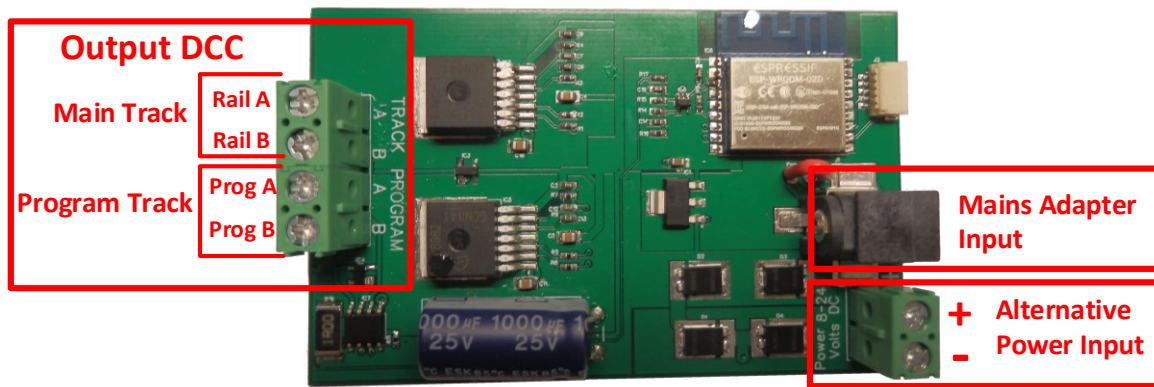

Figure 1. WFD-25 Connections
- (1) The WFD-25 module is intended to receive power either from a mains adapter plugged into the Mains Adapter Input shown on Figure 1 or as an alternative from a DC power supply from 12 to 18 Volts connected to the Alternative Power Input in Figure 1. When a mains adapter is used, the Alternative Power Input terminals become power outputs which may be used to power other Wi-Fi Layout controllers. The WFD-25 is actually fitted with a full-wave rectifier so it will still operate if the power connections are reversed. However, it's a good idea to follow the convention shown in the figures.